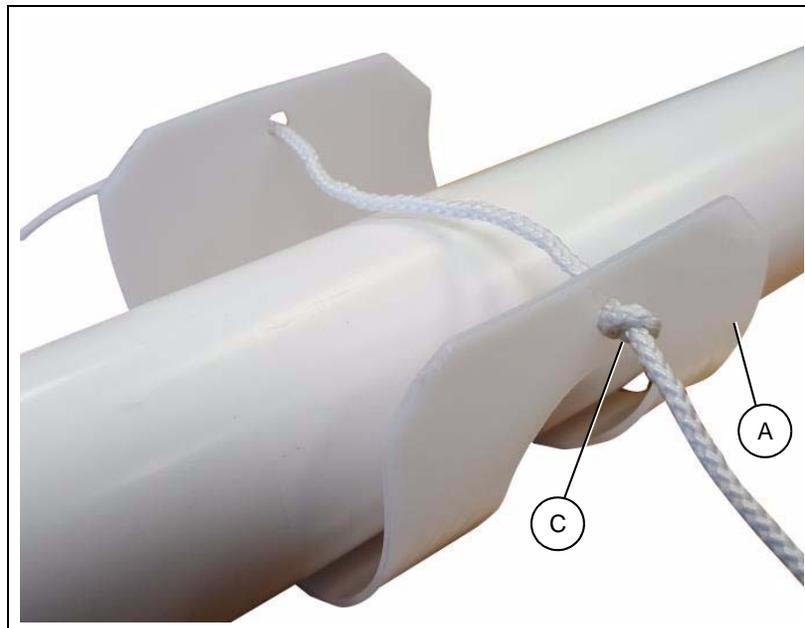

Figure 5N
3. Thread one end of the cord through both holes in the top of the rotary slide (A). (See Figure 5N.)